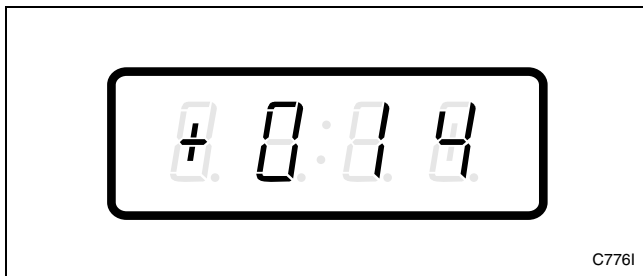

Figure 59
3. Press the DELICATES (+) or the COLD (-) keypad to scroll through the programmable options until “+014” appears in the VFD. Refer to *Figure 59*.